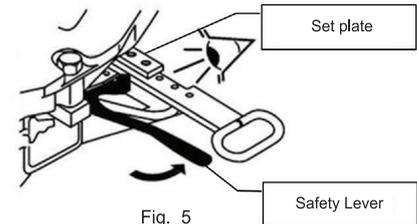
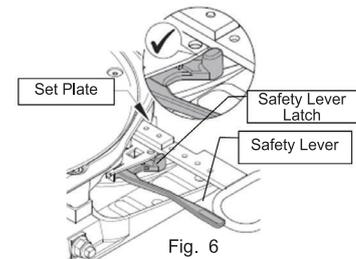

Fig. 5
Fig. 6
- 6- Reverse the vehicle slowly until 5th wheel coupling engages. (see Figure 4) The spring safety lever should return to its original position automatically. (see Figure 5)
- 7- Get off the vehicle and visually check that 5th wheel lock has fully engaged. If the lock is fully closed, the safety lever should be in the upper position and the small adjustment plate on the lock lever should contact 5th wheel platform. (see Figure 5 and Figure 6).
As shown in Figure 6, the latch on the safety lever should be in the upper position.